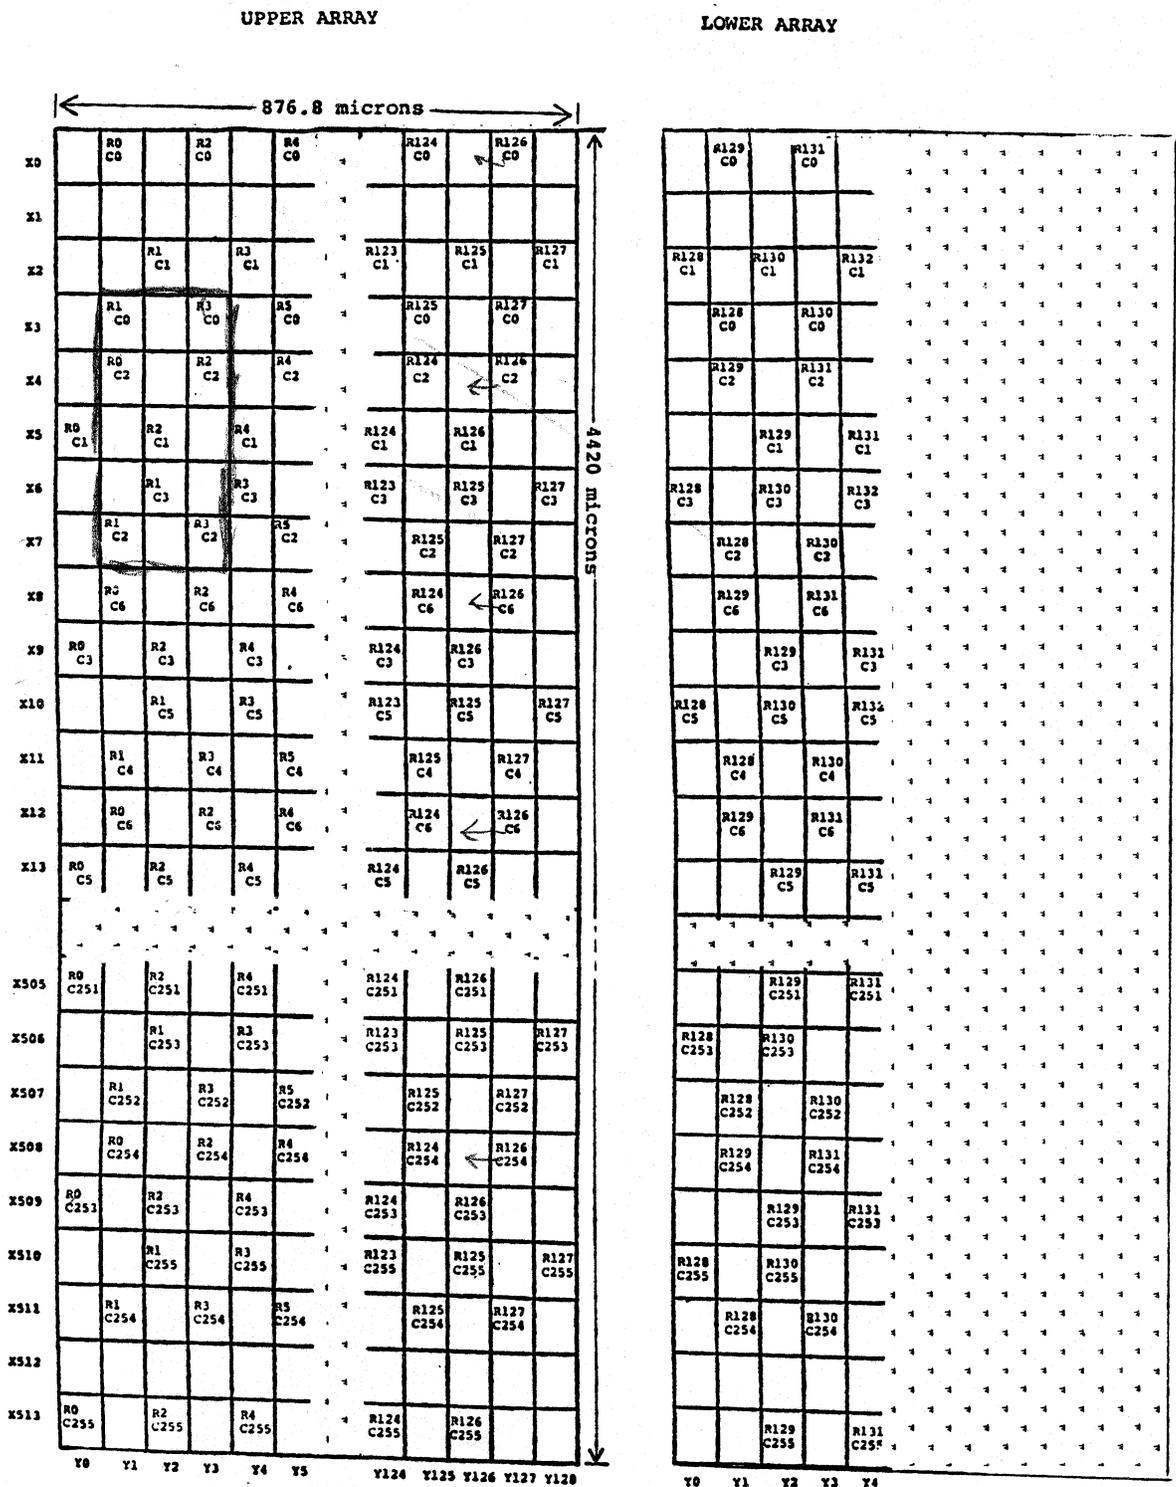

Figure D-1. IS32 OpticRAM Physical Layout.
1. ARRAY: 128 x 256 electrical addressable elements per array (4420 microns x 876.8 microns). The physical organization of the array is actually a 514 x 129 grid with staggered cell placement as indicated in figure D-1.